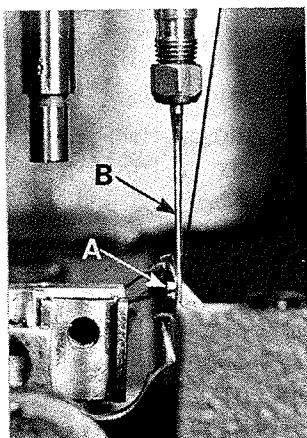

Fig. 7
The looper is set correctly in line-of-feed, if, as it moves to the left, behind the needle, its point (A, Fig. 7) brushes, but does not pick at the rear of needle (B).